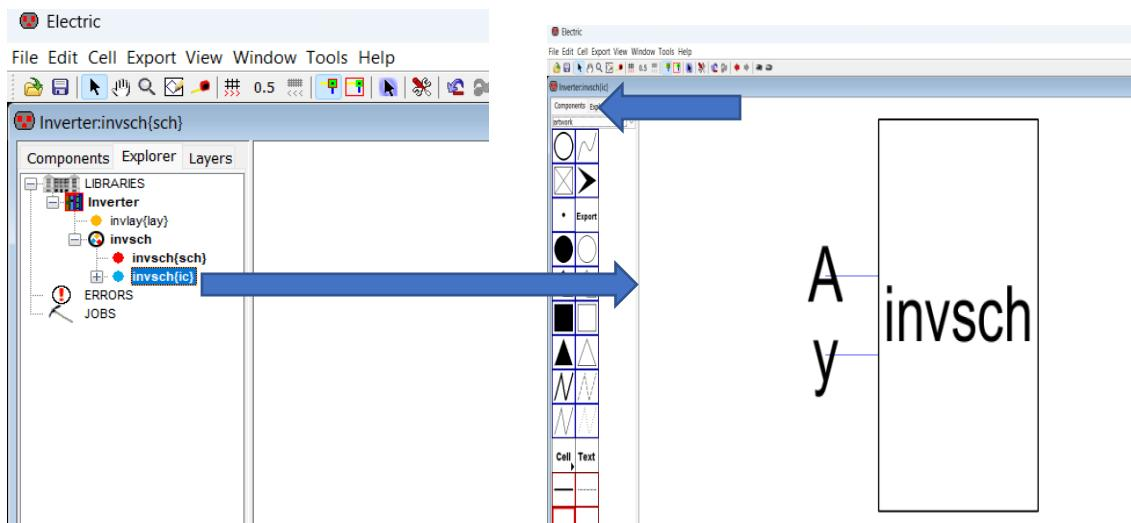

Figure 1.31: The icon file.
23. To change the icon shape, click on the component in the left-side window and choose the shape you want (see Figure 1.31).